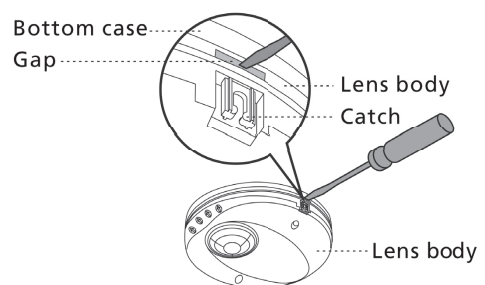

Fig. 7
3.3.2 To separate bottom case from lens body force a small flat blade screwdriver into the hidden gap shown partially exposed in Fig. 7 then push screwdriver in towards centre and lever bottom case assembly away from lens body pins.